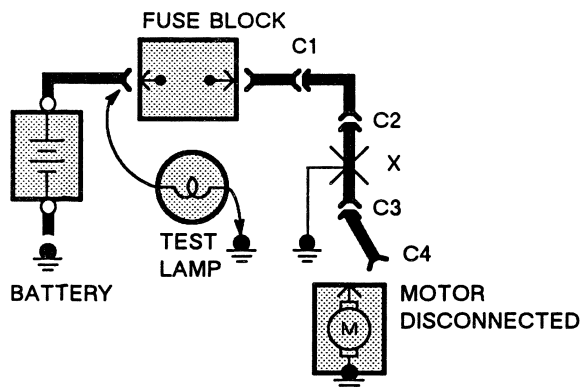

Figure 5—Short Check
A fuse that repeatedly blows is usually caused by a short to ground. It's important to be able to locate such a short quickly (Figure 5).
- Motors: disconnect motor connector (Connector C4 in Figure 5).
5. Disconnect the test lamp lead that is connected to ground, and reconnect it to the load side of the fuse at the connector of the disconnected component. (In Figure 5, connect the test lamp lead to connector C4.)
- If the Test Lamp goes on, the short is in the wiring. You must find the short by disconnecting the circuit connectors, one at a time, until the Test Lamp goes out. For example, in Figure 5 with a ground at X, the bulb goes out when C1 or C2 is disconnected, but after disconnecting C3. This means the short is between C2 and C3.